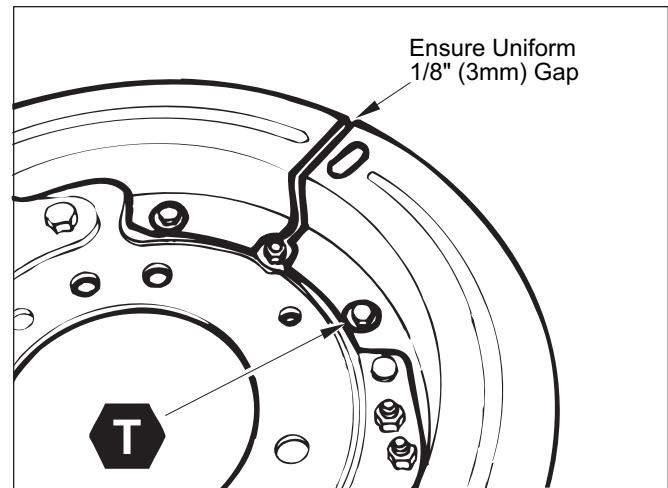

Figure 48. Dustshield Spacing
3. Reposition dustshield as required to allow a uniform space of $1/8"$ (3.2 mm) all along parallel mating edges. Refer to Figure 48.